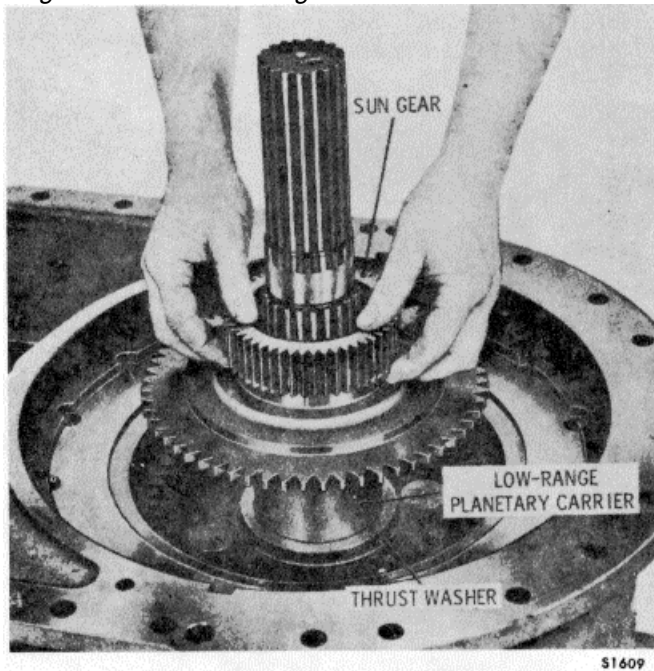

Figure 15-70. Removing Reverse-Gear Sun Gear
4. Remove the reverse-gear sun gear from the hub of the low-range planetary carrier (Figure 15-70). Remove the bronze thrust washer.